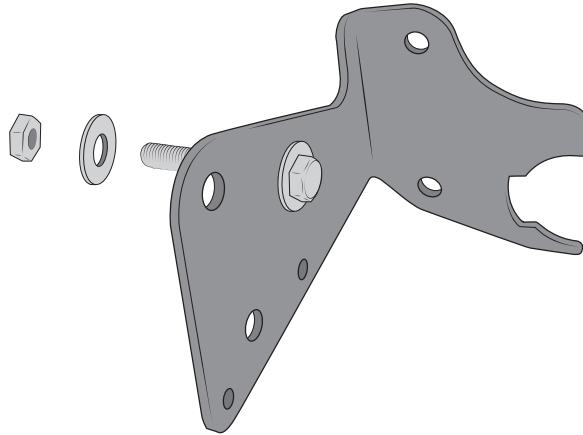

Figure 3
4. Pre-assemble the second bracket as shown (Fig. 3) with the supplied bolt, washers, and free-spinning nut.